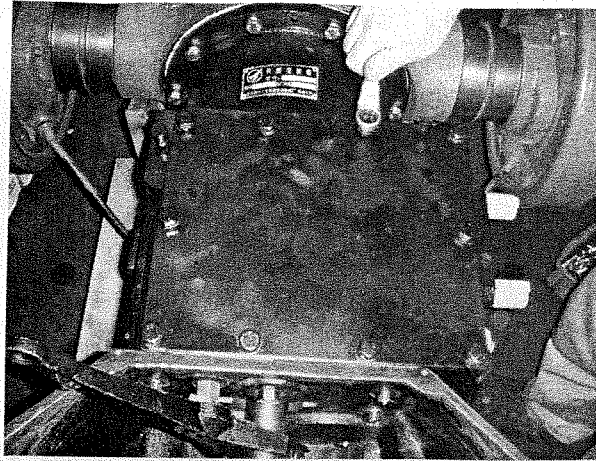

Fig 2-15
(3) Loosen off the mounting bolts on Case cover (Fig 2-15).